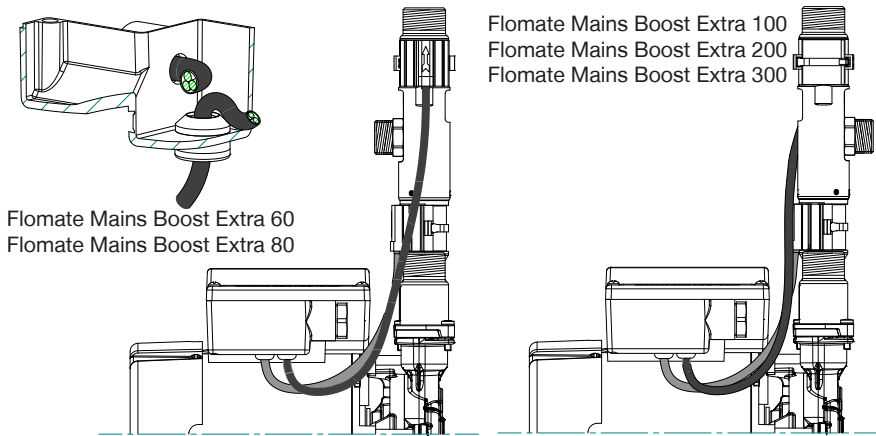
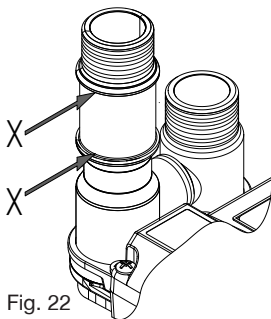

Fig. 20
Fig. 22
- Remove four screws and carefully remove terminal box lid (item 22).
- Note the cable routing within the terminal box (Fig. 20).
- Push the cable into the base of the terminal box ensuring the upper reed switch (S2) goes in the right grommet and the lower reed switch (S1) in the left one (Fig. 20).
- Locate the reed switch within the body groove as highlighted X-X (Fig. 22), and maintain the reed switches positioned as shown in Fig. 20. Feed the tie wrap through the second catch.